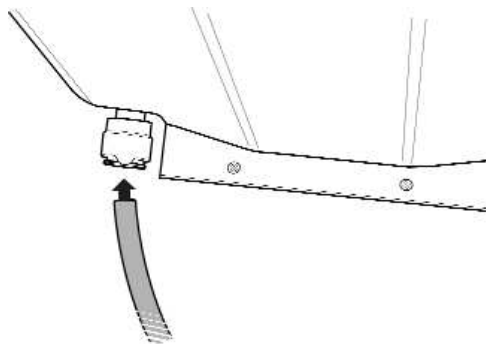

Fig. 23
Step 12 Connection to Cold Water Supply (see Figs. 23 & 24)